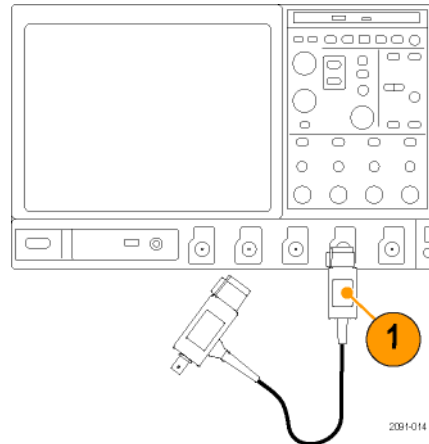

Figure 2-25: Attaching Sync Pickoff for compensation adjustment
1. Connect the Sync Pickoff cable to CH1 and CH4 as shown. The small housing, labeled “Connect to Trigger Channel”, should be connected to CH1. See Figure 2-25.